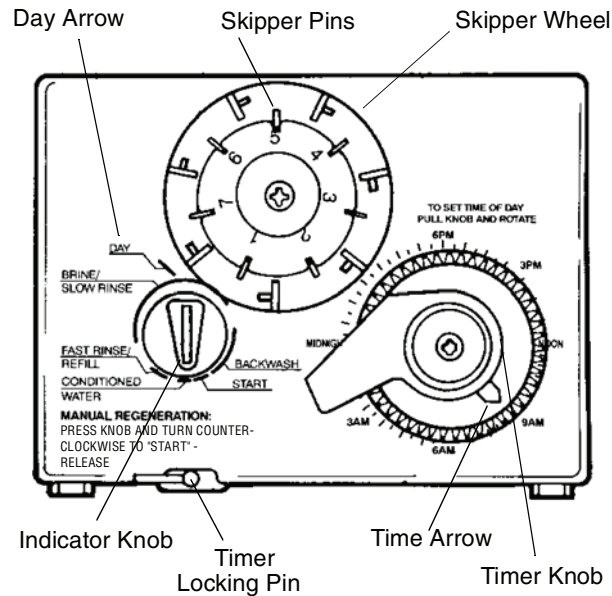
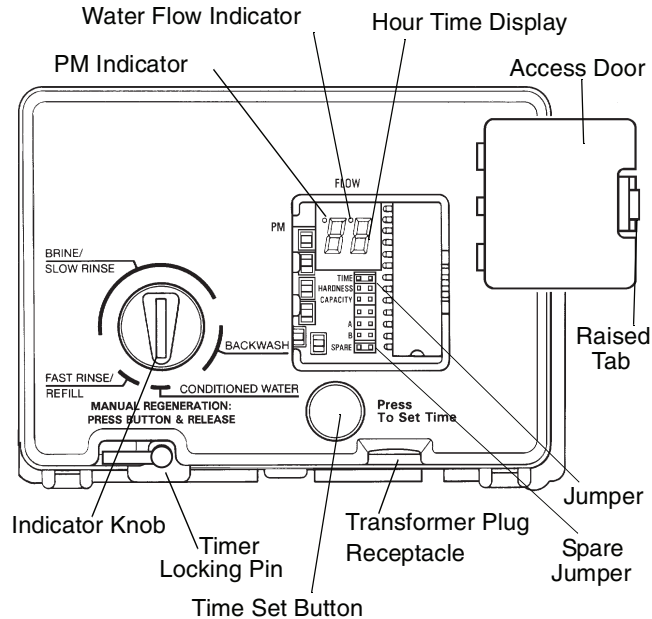

Figure 11
Figure 12
**Note:** The following steps will require turning the indicator knob (Figure 11) to various positions. Insert a wide-blade screwdriver into arrow slot in indicator knob and press in firmly. With knob held in, rotate **COUNTERCLOCKWISE** only until arrow or knob points to desired position. Rotation is made much easier if you grasp the camshaft with your free hand and turn it at the same time. Then permit knob to spring back out.
2. Insert screwdriver into slot in indicator knob (Figure 11). Press in and rotate knob **COUNTERCLOCKWISE** until arrow points directly to the word **BACKWASH**.
1. Set days of regeneration on skipper wheel (Figure 11).
**Note:** The Timer Locking Pin should always be horizontal (Figure 11) during operation.
Open the access door by pushing the raised tab on the door toward the left while pulling the tab out (Figure 12).
**Note:** The Timer Locking Pin should always be horizontal (Figure 12) during operation.
When abnormally high water usage exhausts your water conditioner’s capacity ahead of schedule, an extra regeneration can be achieved. Depress the indicator knob on the 440i (Figure 11) with a wide-blade screwdriver and turn **COUNTERCLOCKWISE** to **START** to initiate a regeneration. For the 460i, simply depress the indicator knob (Figure 12). It will take a few minutes for regeneration to start. A normal regeneration will take approximately two hours.